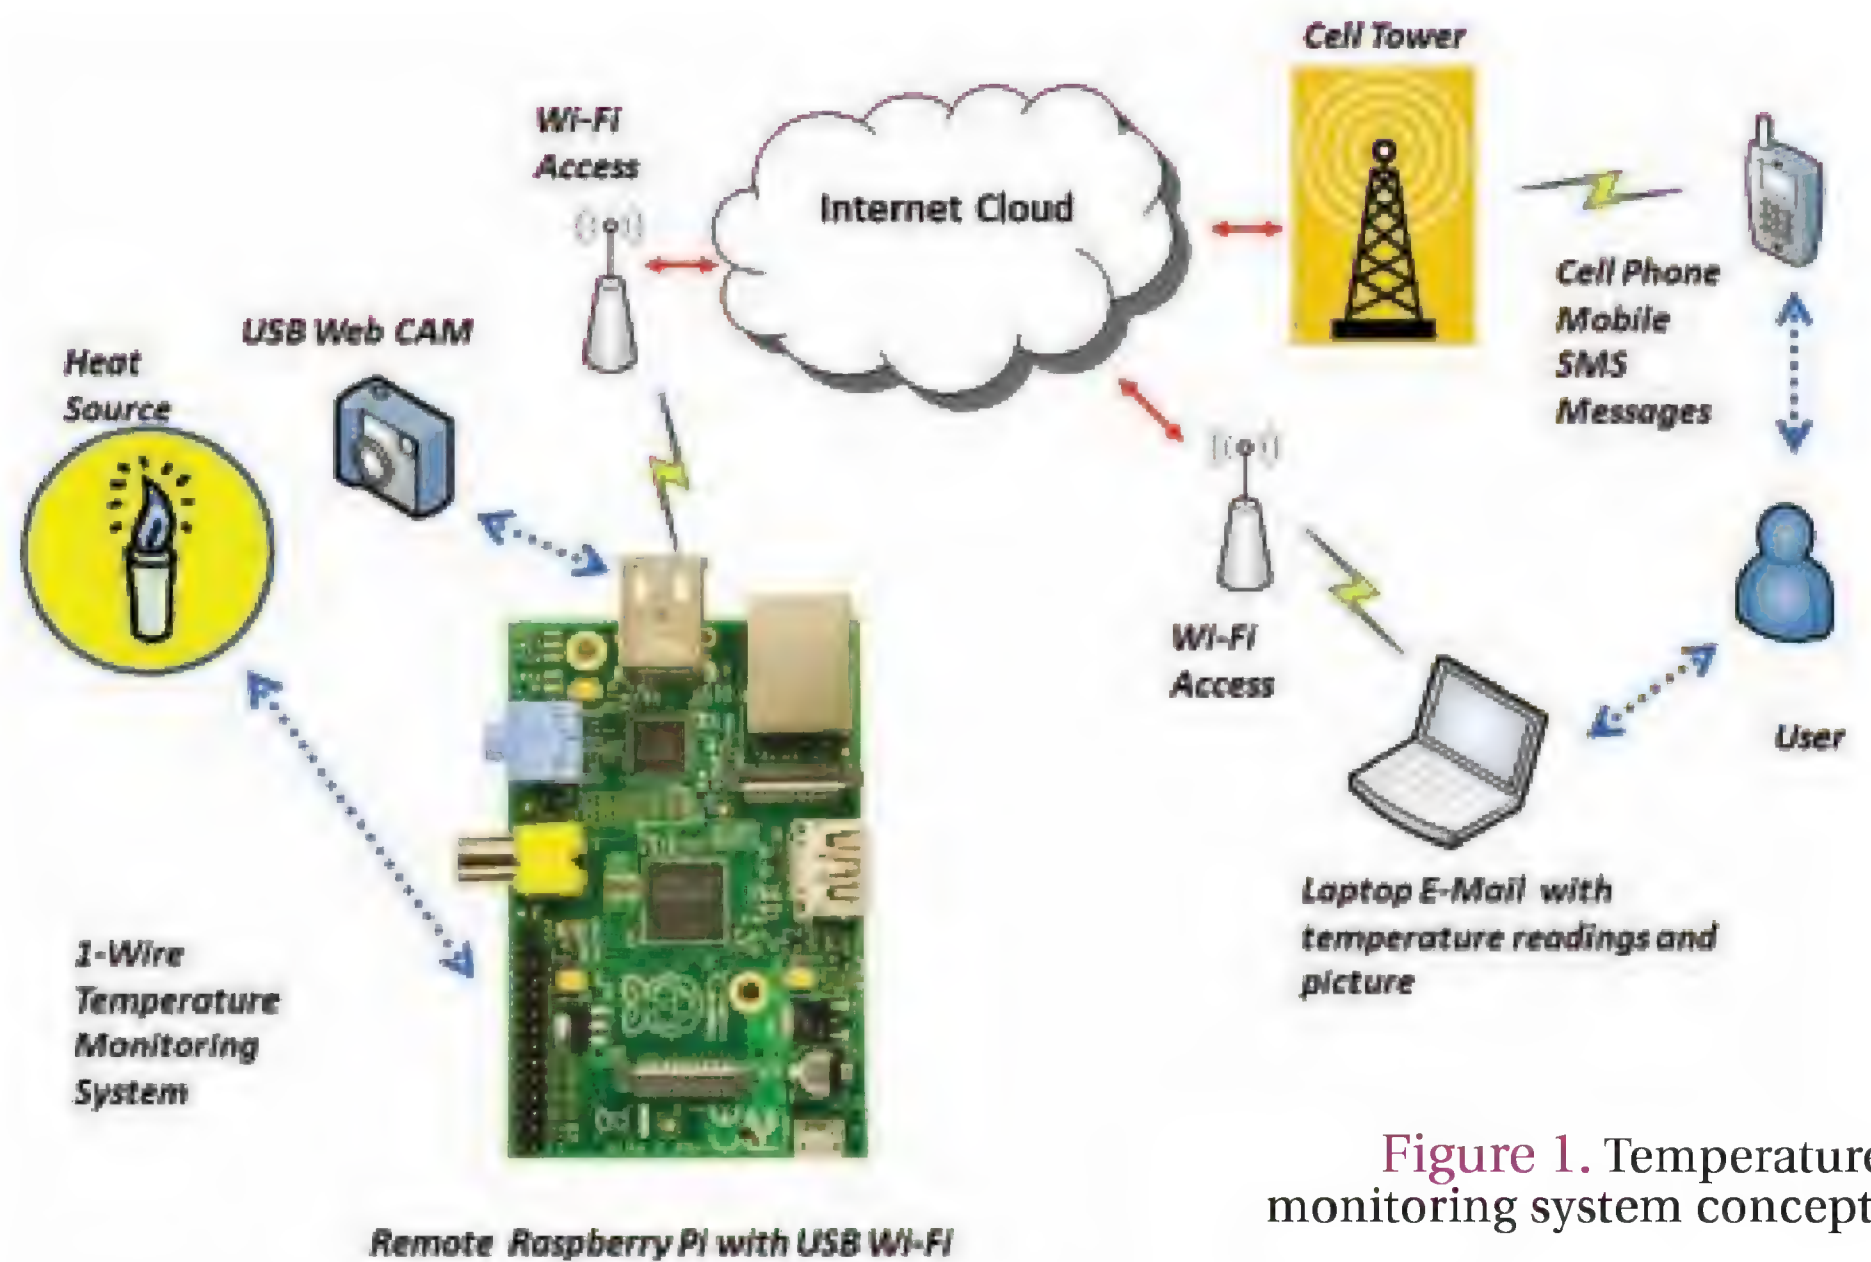

Figure 1. Temperature monitoring system concept.
A while back, I purchased an LEDwholesalers 48 LED desk lamp (about \$30 from **Amazon.com**). It's not very pretty, but it provides a lot of light over a magazine size area and I use every day as a reading lamp. Early models of the lamp had a touch capacitive on/off switch in the base which proved troublesome, and was replaced with an inline mechanical switch as shown in **Figure 1**.
■ **FIGURE 1.** The LEDwholesalers 48 LED desk lamp with 120V power adapter and mechanical on/off switch.
This article will demonstrate integration of simple 1-Wire temperature monitoring hardware with the Raspberry Pi. The hardware and software features of the Pi will be used to develop an increasingly sophisticated thermal monitoring system, including cloud-based data logging, SMS messaging, email data alerts, and pictures to your Internet enabled devices. The concept for our remote monitoring system is shown in Figure 1.